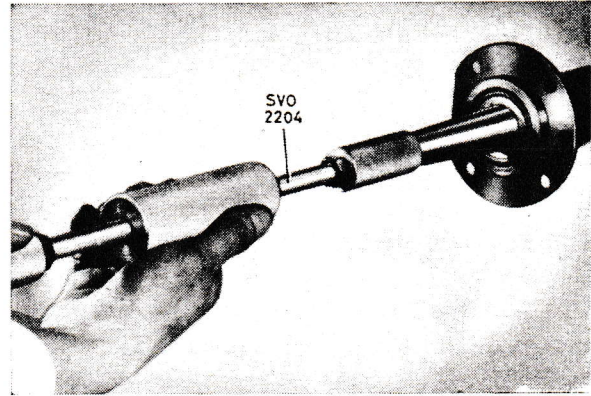
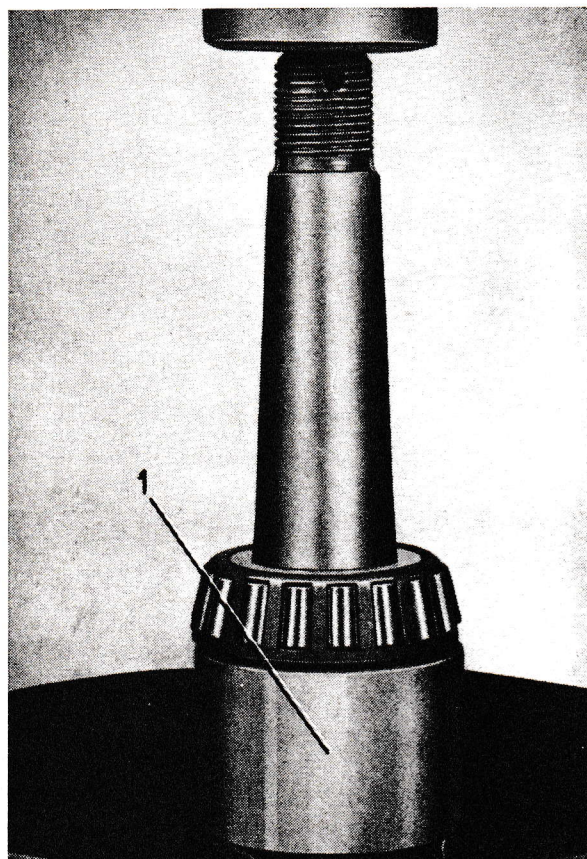

Fig. 2. Removing an axle shaft.
Fig. 9. Removing the axle shaft bearing.
2. Pull out the axle shaft, Fig. 2. Use puller SVO 2204.
2. Pull out the axle shaft, Fig. 2. Use tool SVO 2204. Check or replace the oil seal.
3. Press off the bearing, see Fig. 9. Use tool SVO 1806 under the bearing. Fit the new bearing by using tool SVO 1805.
3. Remove the axle shafts (13). Use puller SVO 2204, see Fig. 2. If necessary, press out the roller bearing (15) from the shaft. Use tool SVO 1806 as a support, see Fig. 9.